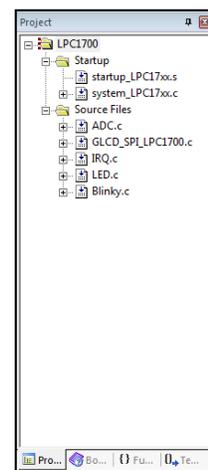

Fig 7: Final Workspace
6. Drag all the files **except** "startup\_LPC17xx.s" and "system\_LPC17xx.c" to the "Source Files" folder. Your workspace should now resemble Fig. 7.